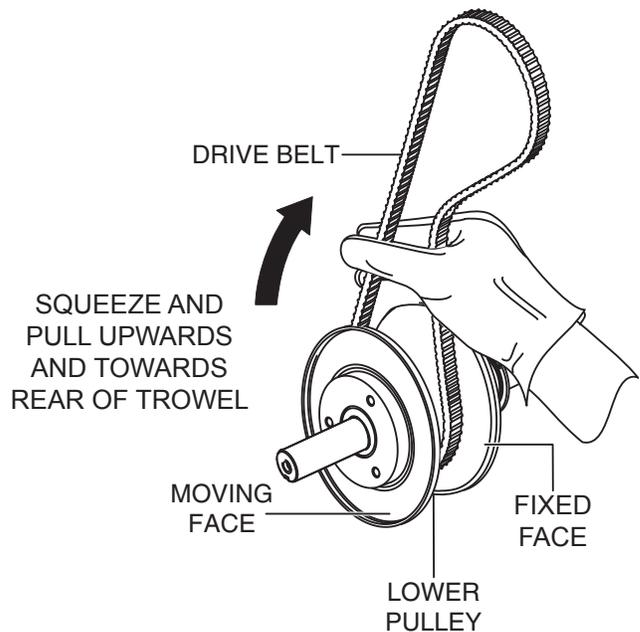

Figure 27. Drive Belt Installation (Lower Pulley)
1. Place a new drive belt over the lower pulley (Figure 27).
2. Squeeze the drive belt and pull upwards and towards the rear of the trowel (Figure 27). This will spread apart the faces of the lower drive pulley.